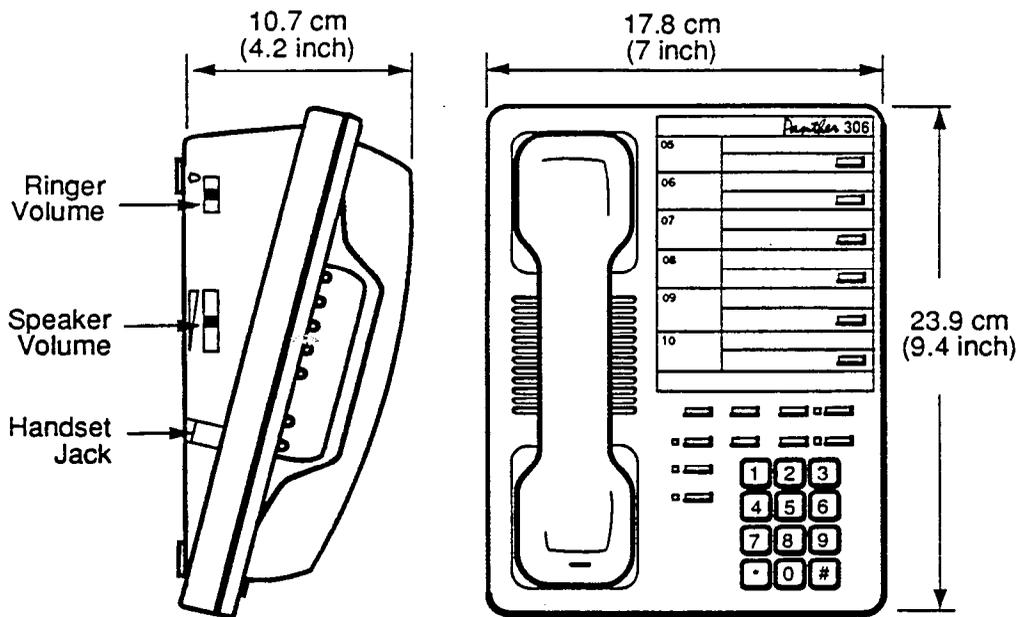

Figure 2-2 Panther Telephone Set Dimensions
2.02 The Panther telephone sets are constructed of moulded plastic measuring 10.7 cm (4.2 inches) high, 17.8 cm (7 inches) wide and 23.9 cm (9.4 inches) deep. See Figure 2-2. Each set is similar in design, having a detachable handset, a soft-touch keypad, dedicated function keys and status lamps. The number of status lamps, line and function keys varies with the set type. There are 10 types of sets which can be connected to the Panther II systems.